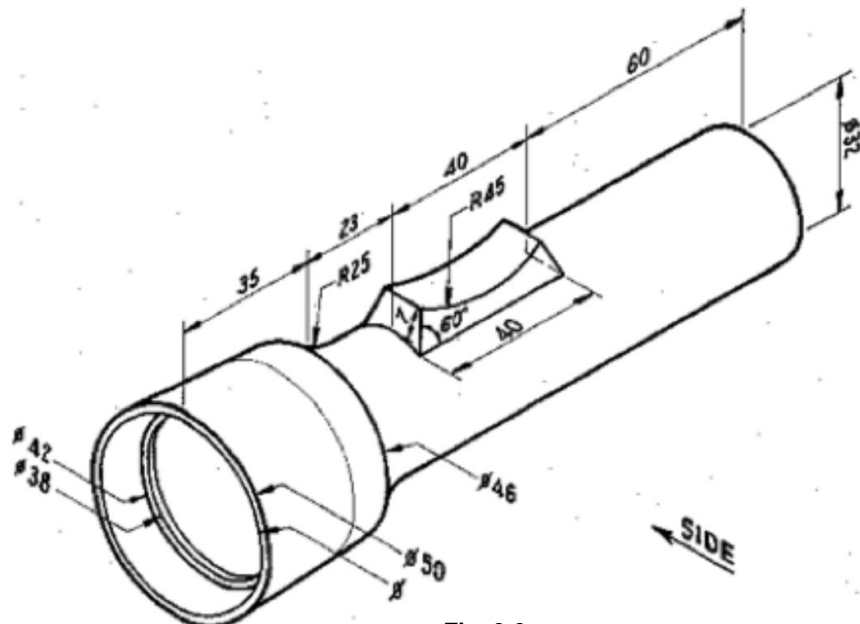

Fig. 9.6
4. Create a simple model of a Torch light shown in Figure 9.6 and add any new features to it